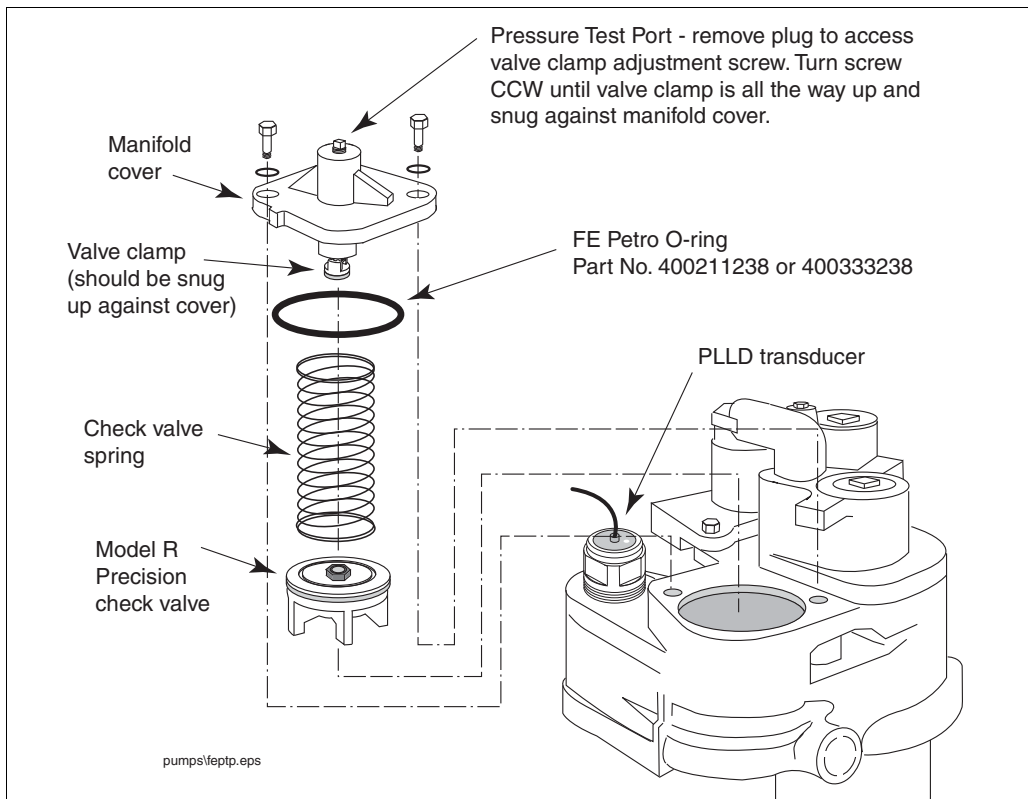

Figure 12. Location Of PLLD Transducer And Model R Precision Check Valve In FE Petro Pump
2. If the pump does not have a Stage II vapor recovery device installed in the pressurized piping, remove the 2" NPT plug from line leak detector port. Install the PLLD transducer into the 2" NPT port as shown in Figure 12.
4. For PLLD operation there must be a FE Petro model R precision check valve in the pump, If necessary, replace the current check valve with a model R precision check valve (ref. Figure 12).